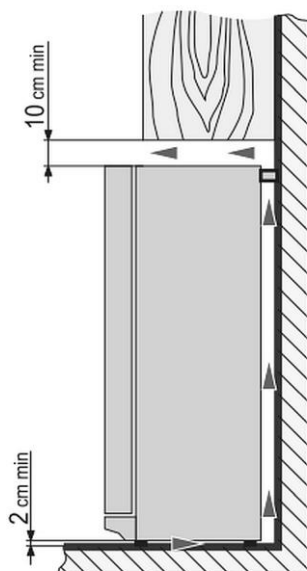

Fig. 6
- Maintain a minimum clearance of 10 cm between the top side of the appliance and objects that are above it (e.g., a cabinet) (Fig. 6).